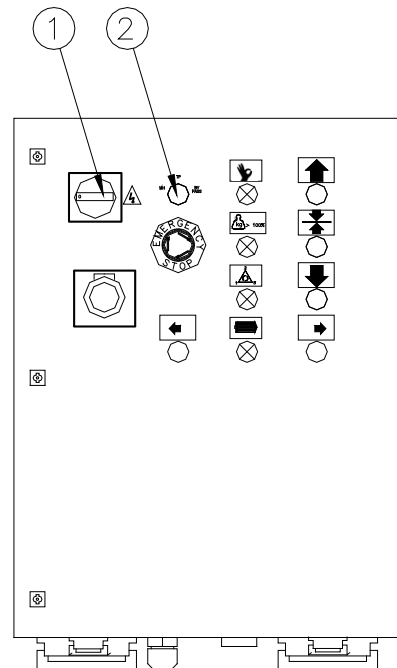

Fig.H.13 Platform electrical box
45. Rotate the main switch on the electrical box on platform (1-fig.H.13) in '1' position.
46. During assembly or disassembly, the machine can be acted only by electrical box on platform. Therefore, the key switch (2-fig.H.13) must be in 'TP' position.